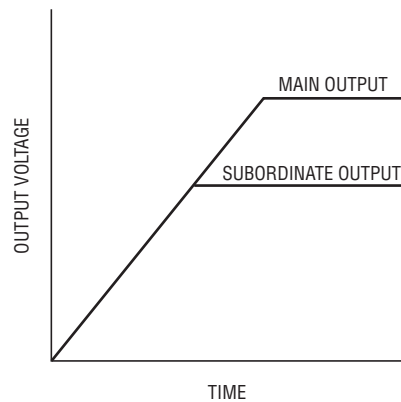

Figure 10. Output Coincident Tracking Waveform
Coincident output tracking can be recognized as a special ratiometric output tracking in which the main's output slew rate (MR) is the same as the subordinate's output slew rate (SR), waveform as shown in Figure 10.